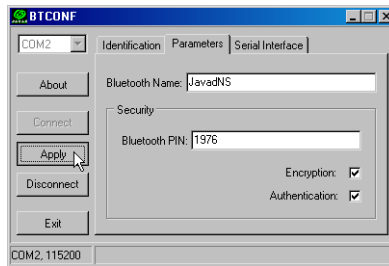

Figure 2-42. BTCONF Security Parameters
8. To set security parameters (Figure 2-42), enter and enable the following, then click Apply: